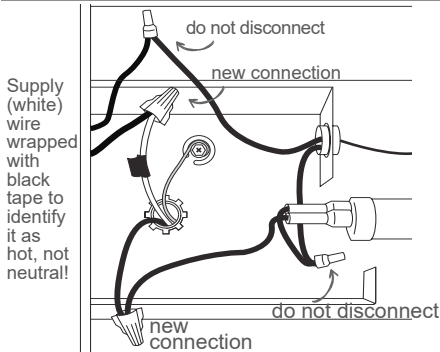
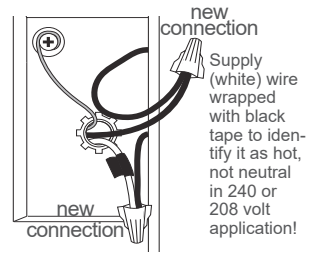

Figure 2
Figure 6
- A. For 240 volts, or 208 volts with two hot supply wires, both ends connect the same, it doesn't matter which heater wire (Figure 2 or Figure 6).
3. In the wiring compartment of each heater, connect one supply wire to one of the heater wires with a wire connector (not included), it doesn't matter which one (See Figure 2 or 4).
4. Connect the remaining supply wire to the remaining heater wire with a wire connector (not included) (See Figure 2 or 4).